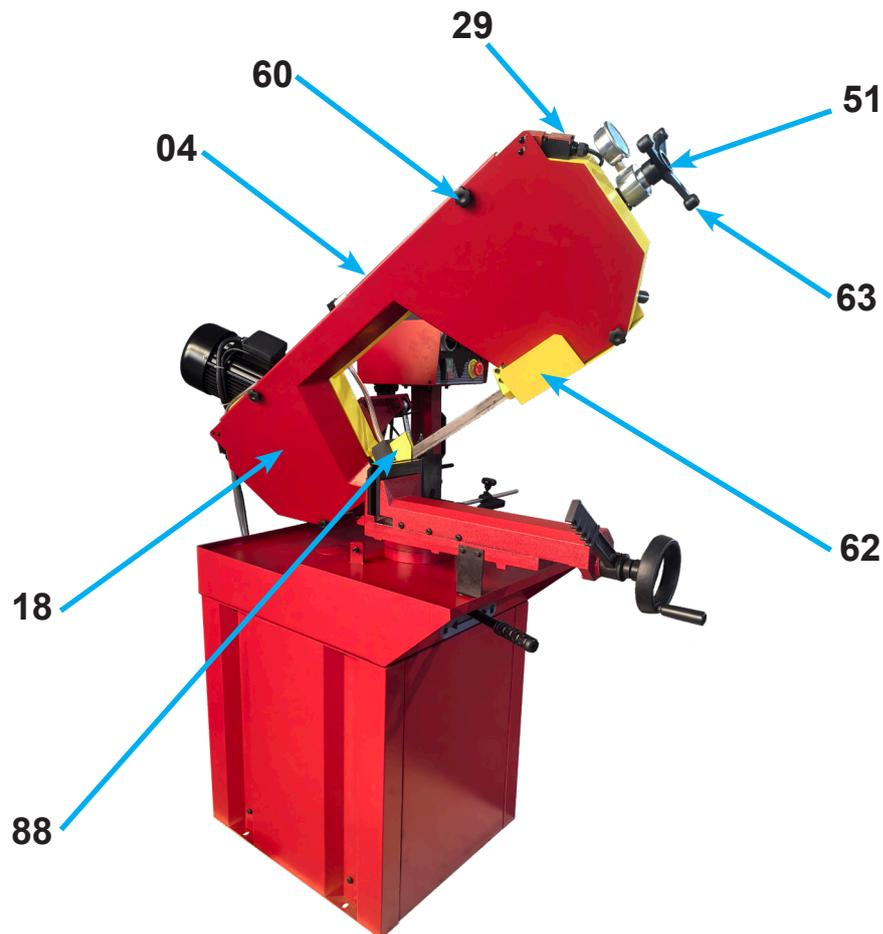

FIGURE 7.6 - TENSIONING SYSTEM
- Fixed Guide Guard (88): Located and attached to the Fixed Guide Support (87) (figure 7.6), which can only be removed by the use of a tool.